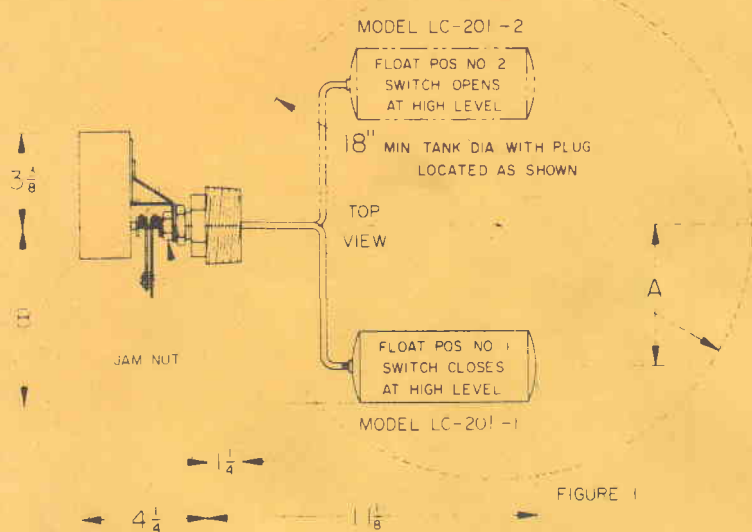

FIGURE 1
5. Loosen jam nut (Fig. 1) and set the mount-in bracket in a horizontal position, as is shown in (Fig. 3.) Tighten jam nut. Replace switch enclosure.